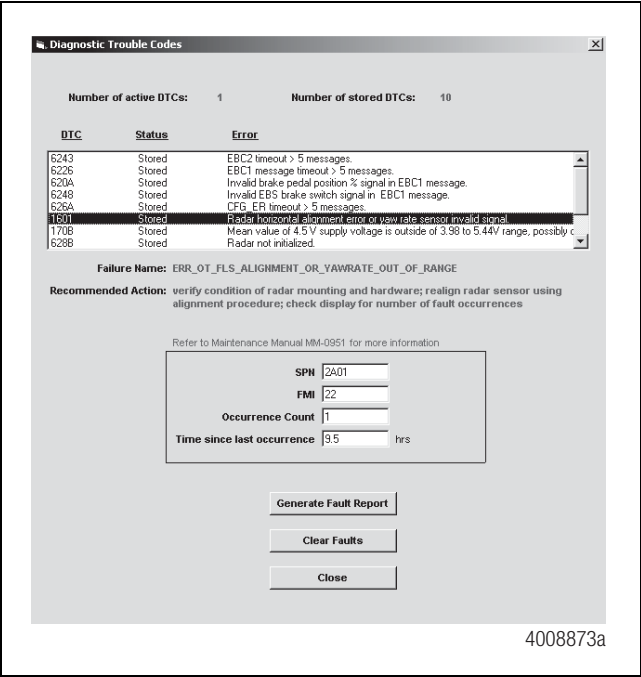

Figure 2.12
3. A description of the fault, the number of times the fault occurred, the suspect parameter number (SPN) and the failure mode identifier (FMI) are all displayed in the Diagnostic Trouble Codes window. Basic repair instructions for each fault are also provided. Figure 2.12. After making the necessary repairs, use the “Clear Faults” button to clear the faults.
Faults can be cleared after generating a fault report. Only stored faults will clear. Figure 2.12.